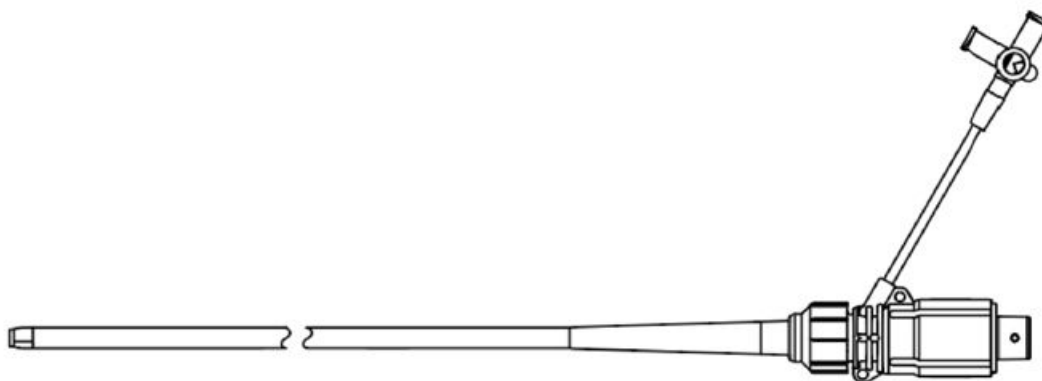

Figure 1: Sheath
- one expandable sheath (eSheath Optima) (Fig 1) with hydrophilic coating that provides access into the target vessel while maintaining hemostasis and temporarily enlarges its diameter to allow for passage of a device.